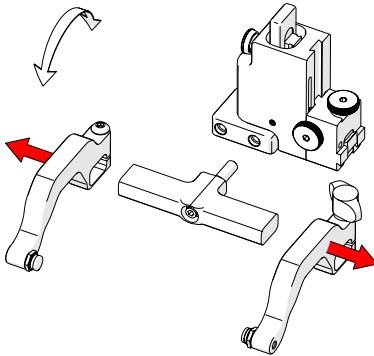

Fig. 98 - Remove probe holder arms
3. Loosen the arm clamp screw and the probe holder arm adjustment knob allowing removal of the probe holder arms (Fig. 98).